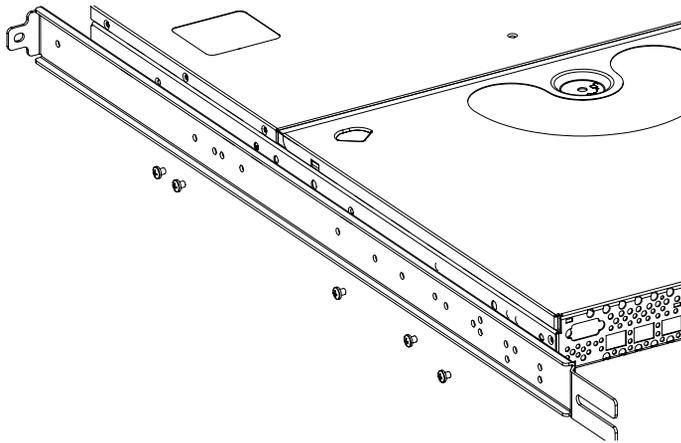

Figure 7: Assembling the inner rails
- a. Assemble the two inner rails (one on each side) to the switch using the appropriate number (from step 5) of #8-32 x 3/16-inch Phillips pan-head screws as shown in Figure 7.
Note: The rail kit provides fourteen #8-32 x 3/16-inch screws for assembling the inner rails. Each switch requires a different number of these screws. For example, Figure 7 shows the an inner rail being attached to the SAN Switch 2/16 with five screws. Attaching both inner rails requires ten screws.